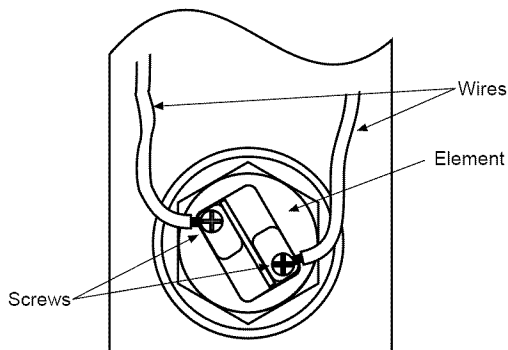

FIGURE 20.
6. Disconnect the electrical wires from the heating element(s) by loosening the screws (Figure 20). Remove the screw-in element(s) by turning the element(s) counterclockwise with a 1-1/2 inch socket wrench. Remove the existing gasket(s).
12. Reconnect the electrical wires to the element and securely tighten the screws (See Figure 20).